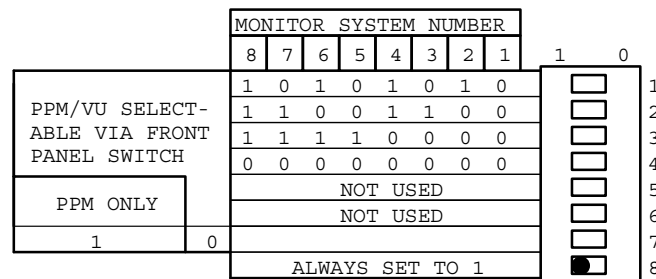

Figure 2-9. MCM 3500 rear panel DIP switch settings.
- b. Switch settings (beneath rear panel access cover). See Figure 2-9.